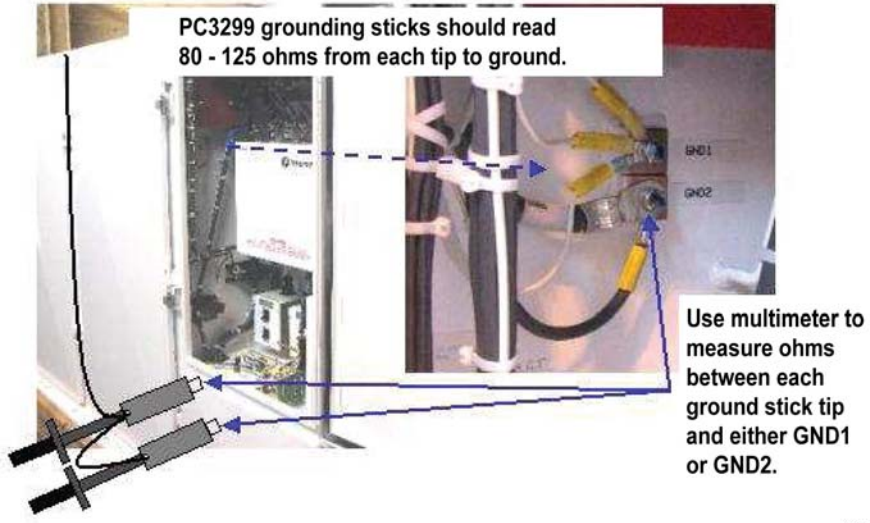

FIGURE 20-11. GROUNDING STICK LEAD CONNECTION AND CHECK
2. Verify the ground connection and ground stick resistance levels. Measure the resistance between each individual ground stick tip to either the GND1 or GND2 ground block in the low voltage compartment of the control cabinet using a multimeter (Figure 20-11). Ensure that the resistance is within the manufacturer's specifications for the ground sticks.